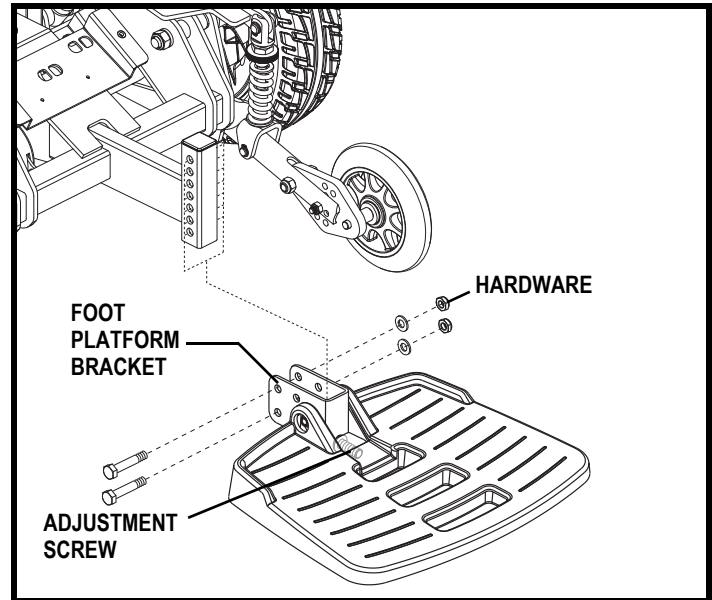

Figure 21. Select Foot Platform Adjustment
1. Remove the hardware from the foot platform bracket. See figure 21 or 22.
You can adjust the angle of the foot platform. See figure 21 or 22.